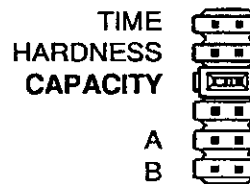

Figure 4
5. Place the jumper on the set of pins next to the word "CAPACITY" (Figure 4). Depress the black TIME SET BUTTON until the correct capacity value is displayed. The capacity range is 1 to 99 kilograins. Refer to the salt setting chart (Figure 6).